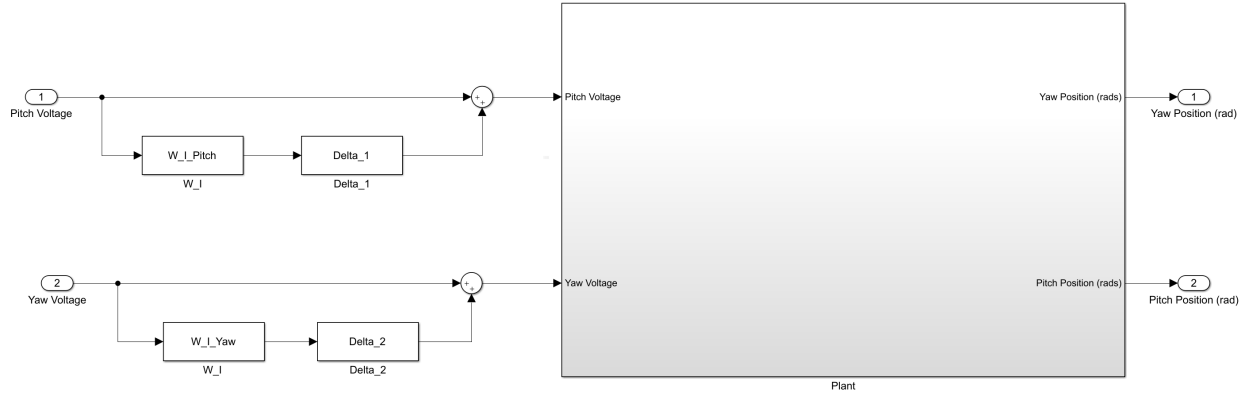

Figure 2: Input multiplicative uncertainty model. The weight is fixed, but the uncertainty element is changed each time the simulation is run.
In this lab you will design and implement several controllers to test their performance on this system. Rather than dealing with the complexities of changing system parameters to test robustness, we will add uncertainty to the model directly in Simulink as shown in Figure 2. Here W_l is a weighting function that you will develop based on assumed parametric uncertainties and Δ_i is a sample from an uncertain system that is updated each time the simulation is run.
- 2.) **(AT HOME)** Assuming 15% uncertainty in the inertia parameters J_p and J_y , build an uncertain model of the system. Fit multiplicative input uncertainty weights for the uncertain plant. Now augment your Simulink model from A.1 with an input multiplicative uncertainty model based on your weights (i.e., build a structure that looks like Figure 2).